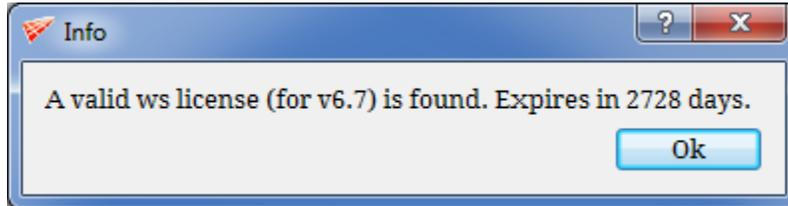

Figure 2.11: License expiry status
**Check License** option displays the license information. If a valid license file exists in the \$GRIDPRO/lc\_mgr directory, a message pops out as shown in Figure 2.11.